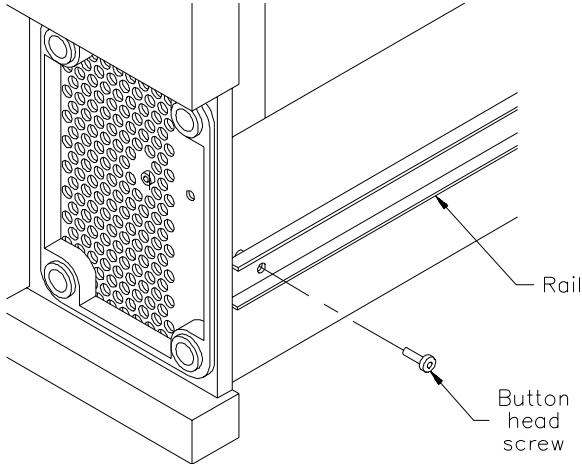

Figure 6-4 Removing the screws from the sides of the library
5. Use a T-15 TORX driver to remove the two button head screws attaching the rails to the sides of the library, as shown in Figure 6-4.